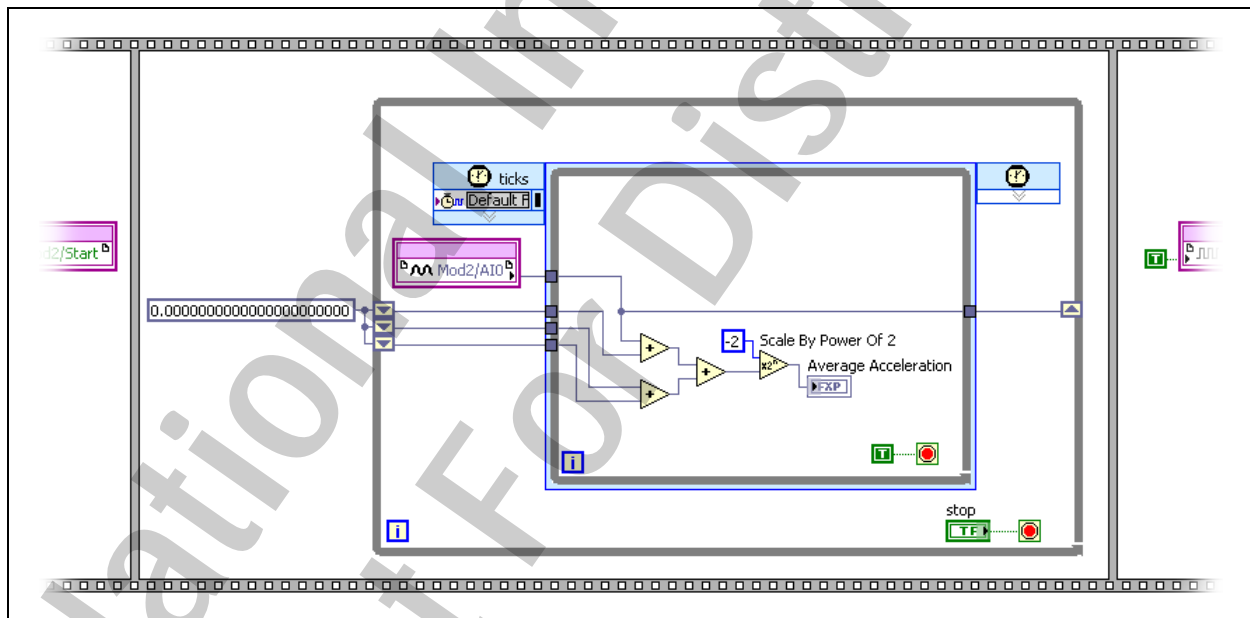

Figure 7-2. Investigate Timing Errors VI Block Diagram
7. Modify the block diagram as shown in Figure 7-2 to remove the unsupported objects from the single-cycle Timed Loop by modifying the following items:
- ☐ Shift registers—Delete the shift register on the single-cycle Timed Loop. Create and wire the shift register on the While loop as shown in Figure 7-2. Expand the Shift Register to display three elements.